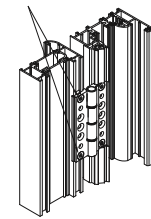

Figure 2.6.
1. Remove machine screws on the hinges to release the door leaf (See Figure 2.6).